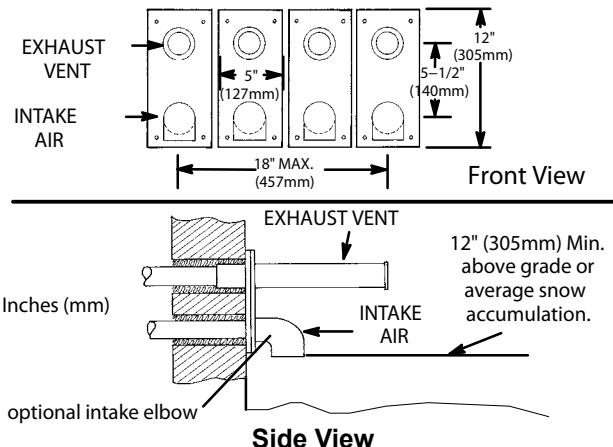

Figure 32
8. Based on the recommendation of the manufacturer, a multiple furnace installation may use a group of up to four terminations assembled together horizontally, as shown in Figure 32.